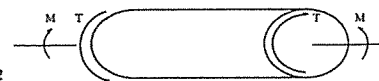

Figure 5
- (20 Points) A circular shaft of the yield strength $\sigma_{yp} = 350MPa$ is subjected to a combined state of loading defined by bending moment $M = 8 kN \cdot m$ and torque $T = 24 kN \cdot m$ as shown in Figure 5. Calculate the minimum required shaft diameter to maintain the shaft to be within the elastic region. Apply the maximum shearing stress theory.